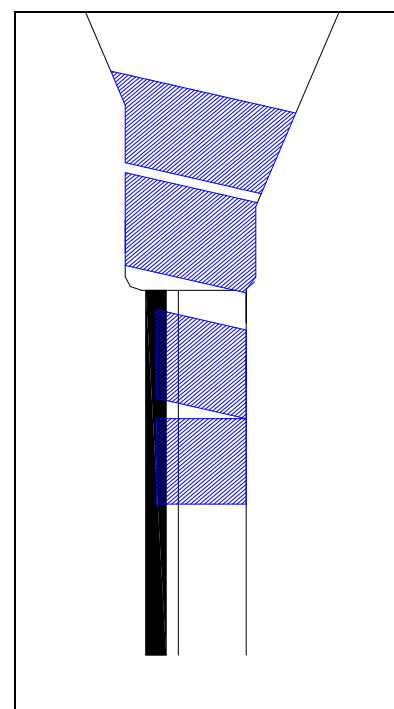

Figure 5
- Lightly coat the terminals with petroleum jelly, and slide the rubber boot over the bottom of the sensor. Secure the bottom of the rubber boot with electrical tape, leaving a hole for drainage of moisture (Figure 5). Do not tape the top of the boot to the sensor because if the tape unravels, it can interfere with the sensor's rotation.